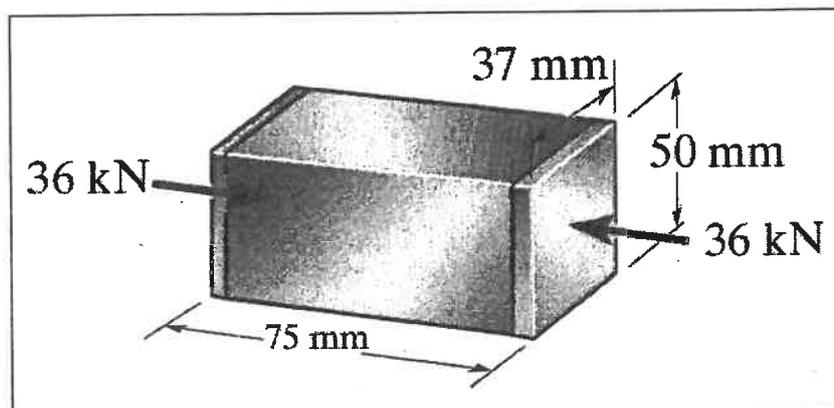

Figure 2
- (b) An aluminum block as shown in Figure 2, has a rectangular cross-section and is subjected to an axial compressive force of 36 kN. If the 37-mm side changed its length to 37.5033 mm and $E_{al} = 70$ GPa, determine;